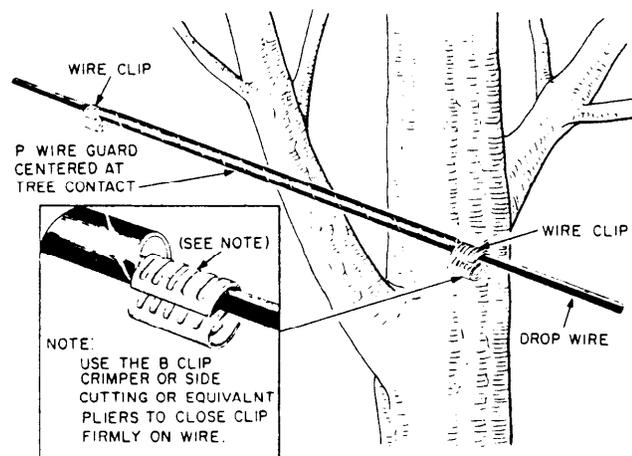

Fig. 19—Wire Guard Installed
- 5.09 Install wire guards as shown in Fig. 19.